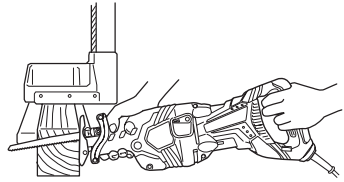

Fig. 22
- (1) When cutting lumber, make sure that the workpiece is fastened firmly before beginning. (Fig. 22)